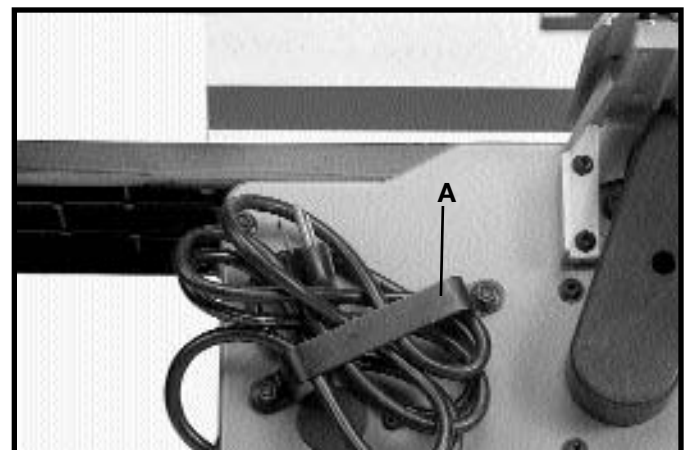

Fig. 36
A cord storage bracket (A) Fig. 36, is provided on jointer base for storage of the cord when machine is not in use.